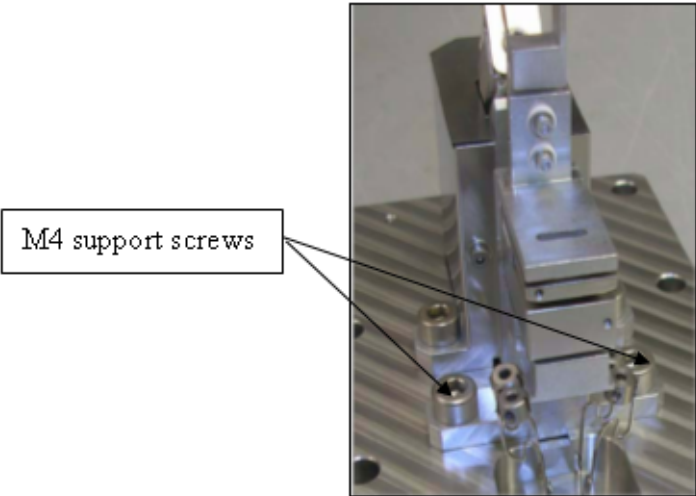

Figure 11: M4 Support Screws
- 13. Remove the two M4 support screws (Figure 11: M4 Support Screws).